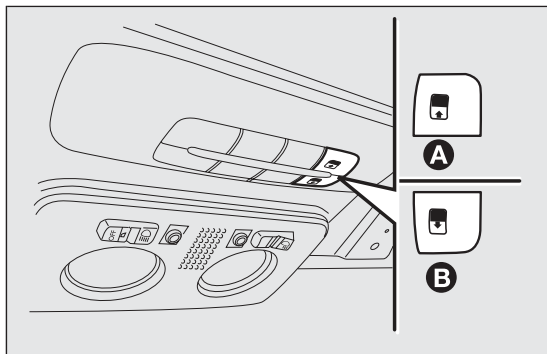

fig. 80
To close them, carry out the procedure in reverse. The sun roof can be operated only with the ignition key turned to MAR-ON. The controls A and B fig. 80 on the trim next to the front roof light operate the sun roof opening/closing functions.
Press and hold down button B fig. 80. The front glass panel will move into the spoiler position; press button B once again and hold down for more than half a second to automatically move the sun roof to an intermediate position ("Comfort" position).
With the roof in the fully open position, press button A fig. 80 and, if the button is operated for more than half a second, the front roof glass with automatically assume the intermediate position ("Comfort" position).
- ☐ press button A fig. 80 until the roof is completely closed. Release the button;